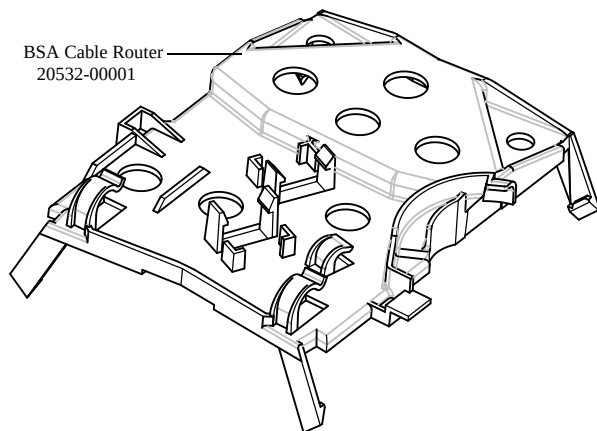

Figure 12-1: BSA Cable Router
4. Remove chassis cover (page 10-3). Disconnect (2) balance sensor assembly (BSA) harnesses from CU board sockets by squeezing plastic tab on connector and gently pulling connector.
6. Remove plastic BSA cable router (20532-00001). (See Figure 12-1 for a close-up view.)
2. Take new BSA from static bag and place BSA cable router on top. Place newly assembled BSA in chassis. Route cables into cable router. See Figure 12-1.